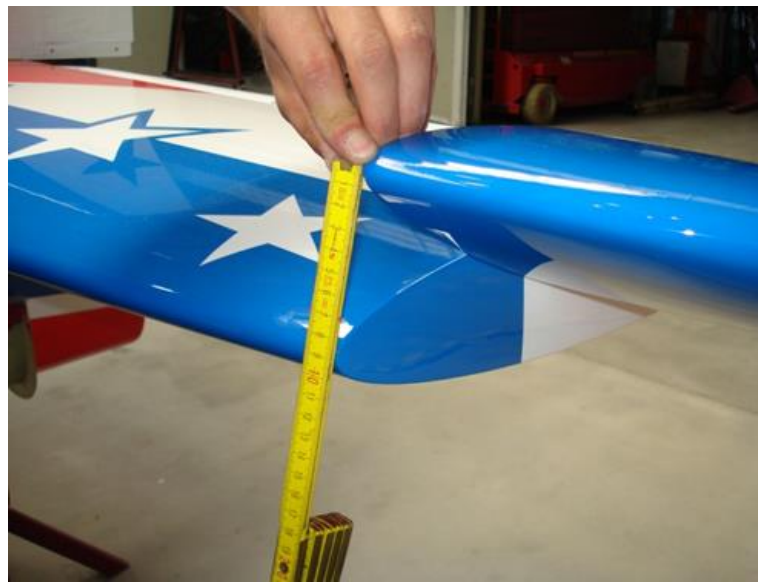

Figure 8: Elevator position
- h. Lift the elevator leading edge 90mm and temporarily fix it in this position, see Figure 8.